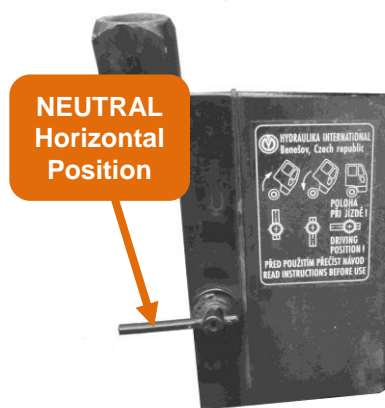
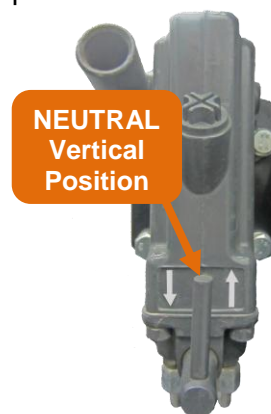

Figure 6.4
Figure 6.5
- ✓ Position the cab tilt valve in the **NEUTRAL** position. (Early model cab tilting valve Figure 6.4, later model Figure 6.5).